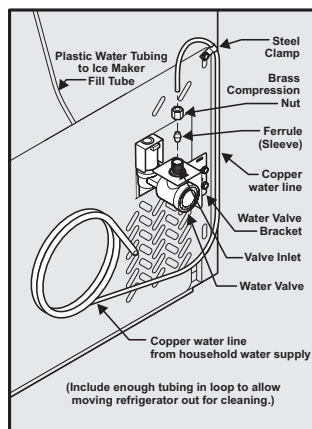

Figure 1
4. **If you use copper tubing** - Slide brass compression nut, then ferrule (sleeve) onto water supply line. Push water supply line into water valve inlet as far as it will go (¼ inch / 6.4 mm). Slide ferrule (sleeve) into valve inlet and finger tighten compression nut onto valve. Tighten another half turn with a wrench; DO NOT over tighten. See Figure 1.